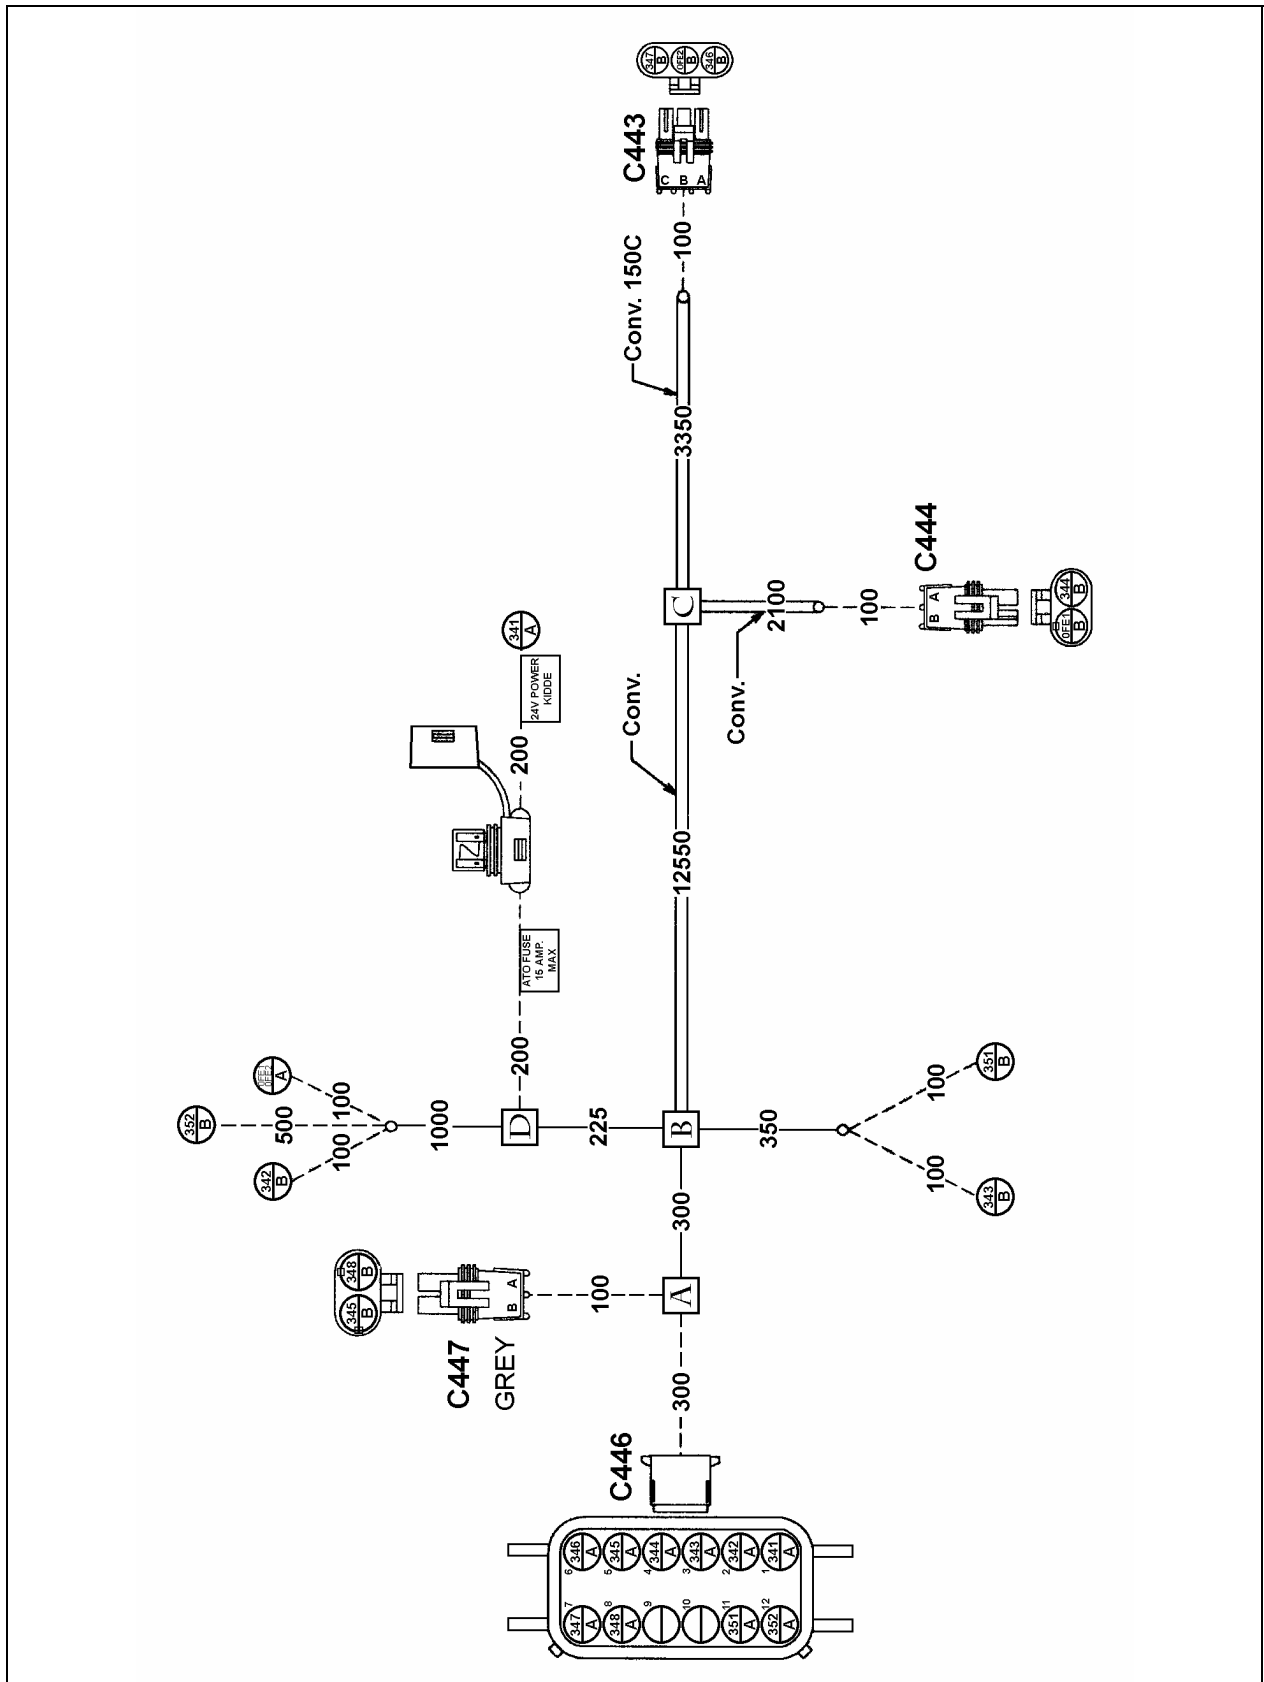

FIGURE 3: CABLE 066463
3. Route engine compartment fire suppression cable (066463) between optical fire detector (408111) and front junction box (Refer to figure 3 and diagrams 5 and 6 as well).
H3 MULTIPLEX vehicles up to 5-0229 must also use interface cables (066581 and 066582) as well as Volvo relay (563332) to connect cable 066463 to the VECF, vehicles 5-0230 and following do not require these parts. Refer to figure 3 and also diagrams 5 and 7.